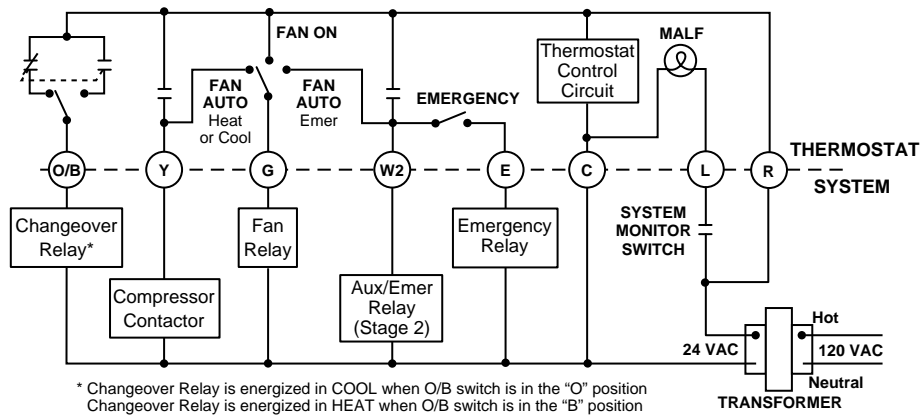

Figure 3. Typical wiring diagram for single transformer systems
5. Check that the system switch is in the **OFF** position. Connect wires beneath terminal screws on base using appropriate wiring schematic (see figs. 3 through 5).